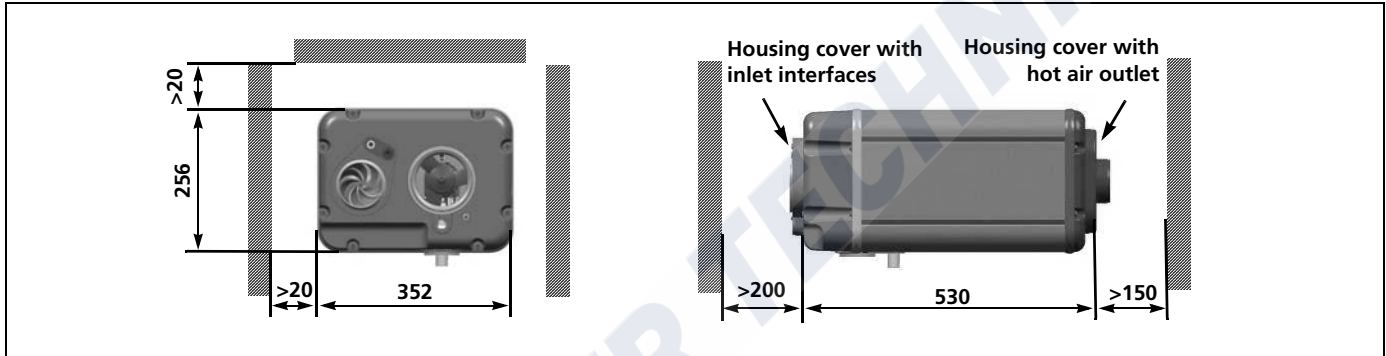

Fig. 3: Dimensions [mm] of the heater
- Make sure to have sufficient space at all sides of the heater. See Fig. 3;
- The minimum distances to the heater from chapter 6.3, "Installation location" (Fig. 3) must be complied with.